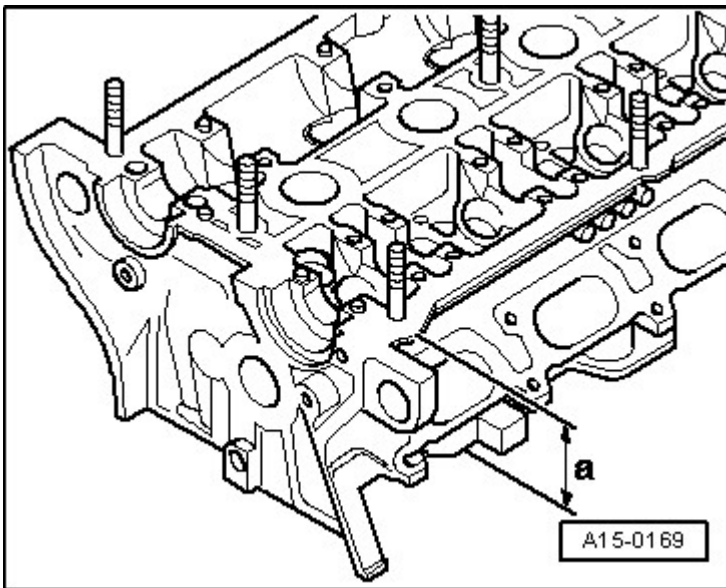

Fig. 17: Identifying Cylinder Head Refacing Dimension
- Reworking dimension, refer to **Fig. 17**